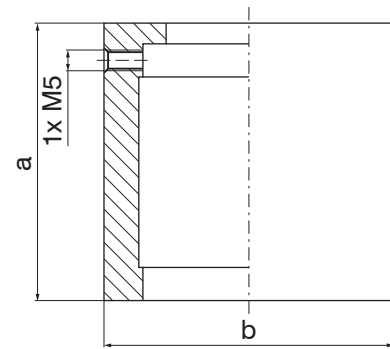

Fig. 12: Dimensional drawing calibration dish (not to scale)
2. Push on the calibration ring (see fig. 12) until it reaches the stop and lock it (countersunk head screw M5). Connect the calibration ring with the electronic evaluation unit by the earthing cable and crocodile clip. It is recommendable to check the earthing connection.